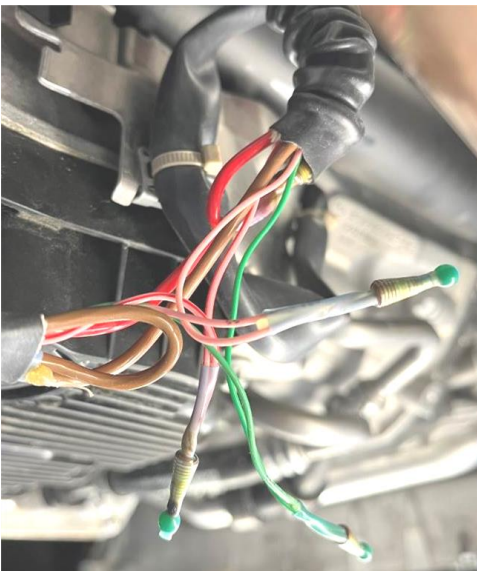

Figure 10
11. Solder the remaining cables of the same color with soldering end sleeves (**Figure 10**) without any tension or pressure on the cables or solder joints. The cables can be shortened if necessary.